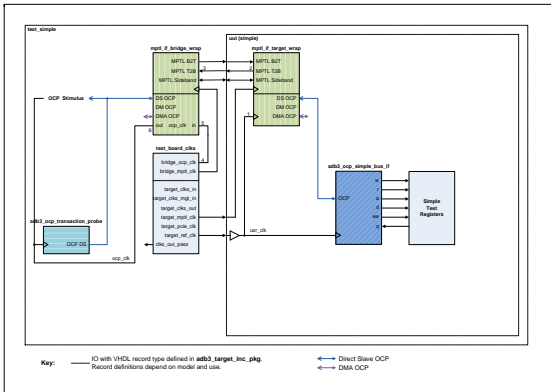

Figure 15 : Simple Design Testbench and Top Level Block Diagram (MPTL)
Figure 15 shows the testbench and embedded simple FPGA design (MPTL).
- The testbench OCP clock `ocp_clk_out` path is shown in Figure 15 as the route consisting of points 1, 2, 3 and 6.
- The testbench OCP clock `ocp_clk_out` path is shown in Figure 15 as the route consisting of points 4, 5 and 6.